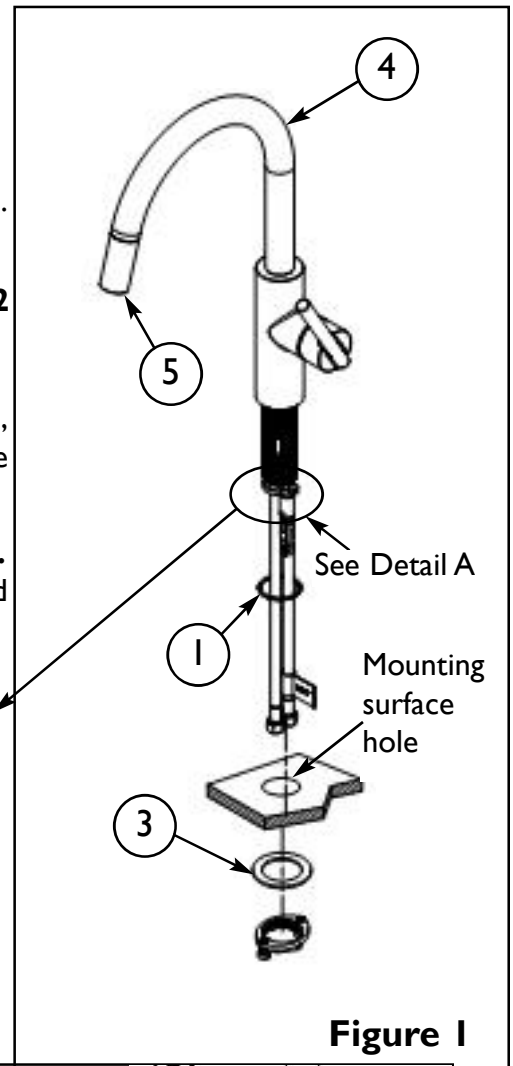

Figure 1
2. Insert Hoses through base O-RING (1) and hole in mounting surface. Secure into place with MOUNTING KIT (3). **See Figure 1.**